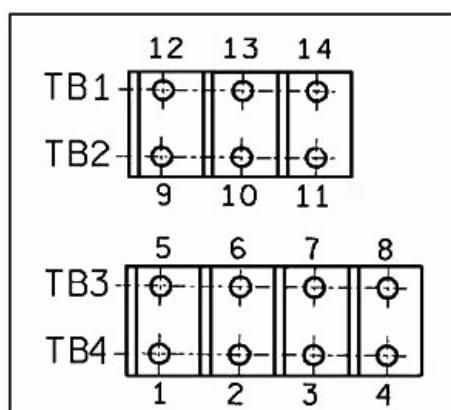

Figure 1: Bogie Connection Box
- 4.2 Check the continuity from each pin in each dump valve plug to the corresponding terminal in the bogie frame connection box. Maximum resistance allowable is 1Ω. For locations of terminals see Figure 1 and Table 1.